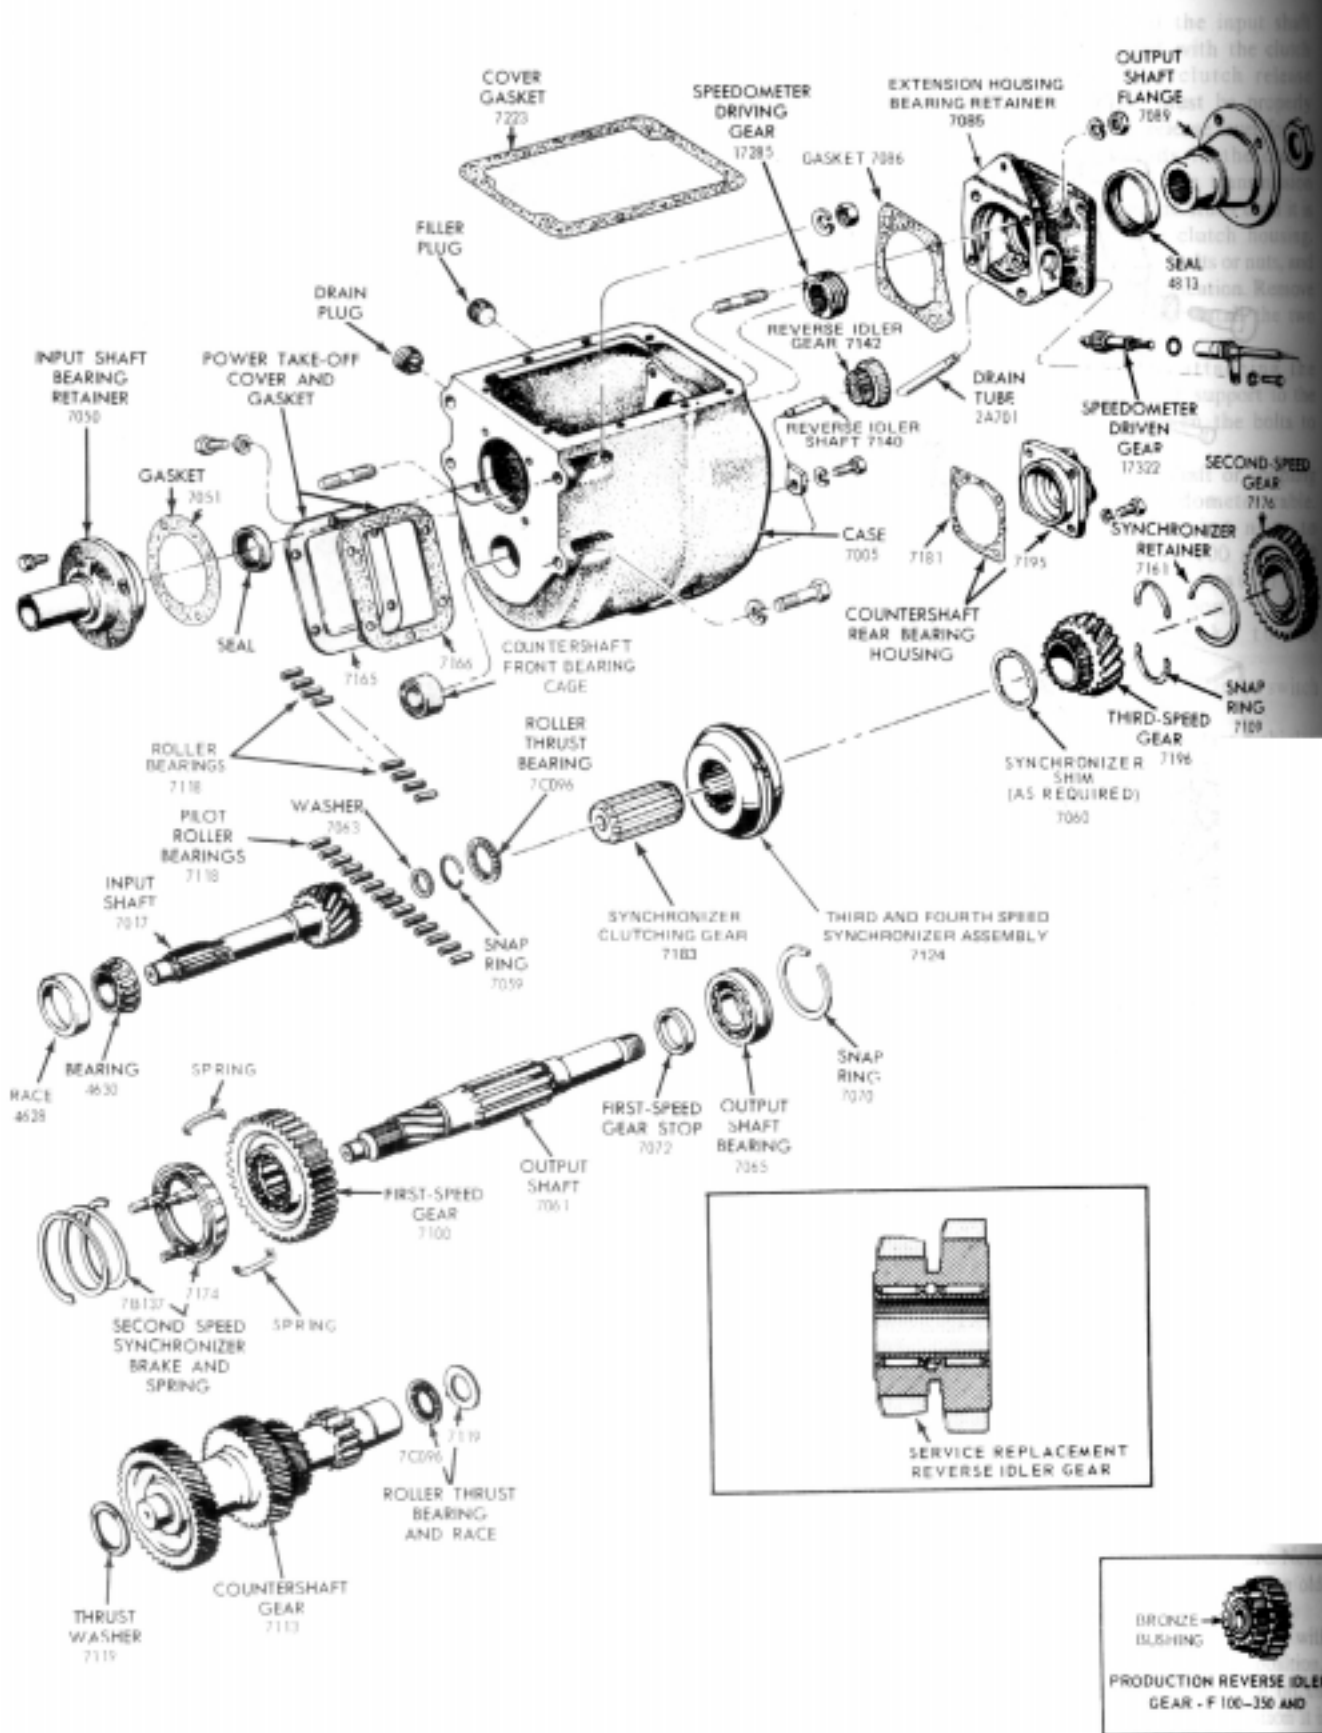

FIG. 5 Transmission Disassembled—F-100-350, P-500
6. Rotate the input gear as required to align the notch in the input gear clutch teeth with the countershaft drive gear teeth. Remove the input gear and tapered roller bearing from the transmission (Fig. 5 and 6).